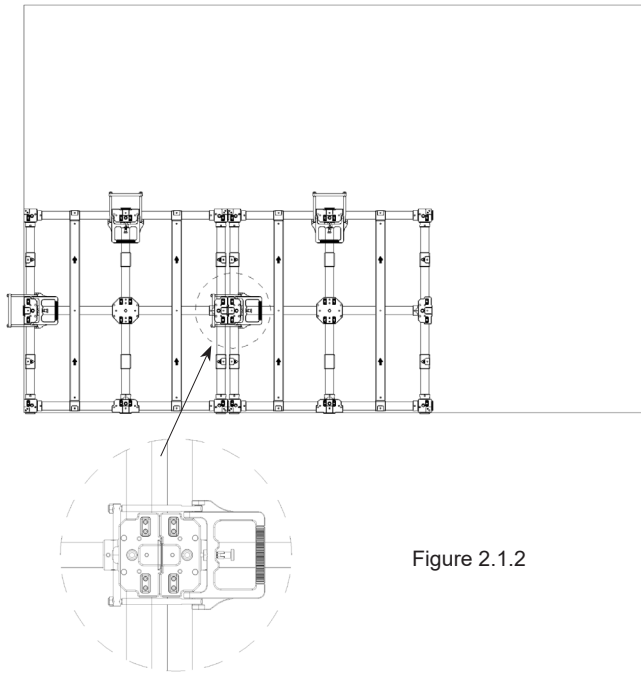

Figure 2.1.2
Step 2: Align the second floor tile bracket with the installed floor tile bracket direction mark, align the shelf with the shelf position, and then connect the hasp lock (Figure 2.1.2).